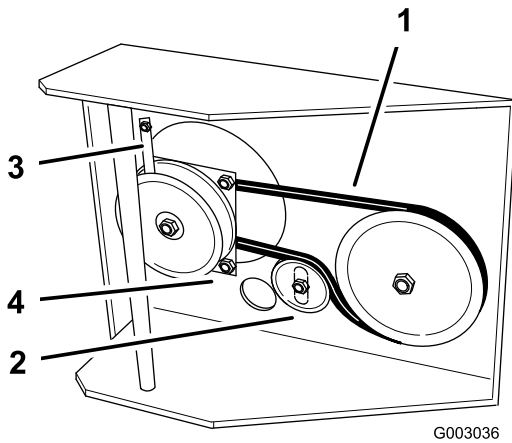

Figure 43
7. Unhook the clutch retainer from the clutch and remove the retainer (Figure 43).
8. Loosen the idler mounting bolt enough to move the idler pulley and remove the traction belt from the drive pulley and clutch (Figure 43).
10. Hook the clutch retainer into the clutch and secure it to the frame with the engine mounting bolt (Figure 43).
11. Torque pivot bolt to 170-220 in-lb (19-24 N·m) (Figure 43).